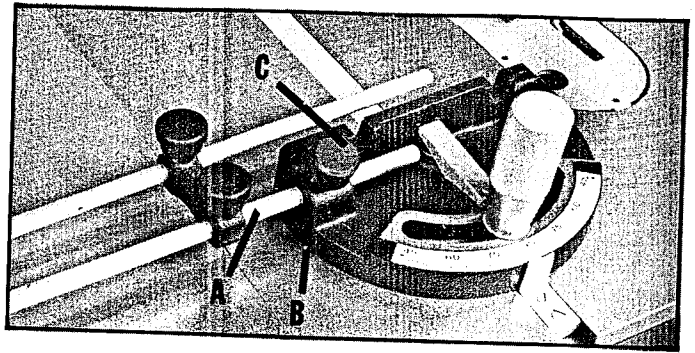

Fig. 42
Assemble stop rod assembly (A) into hole in the side of the miter gage body (B), as shown in Fig. 42, and tighten clamp knob (C).